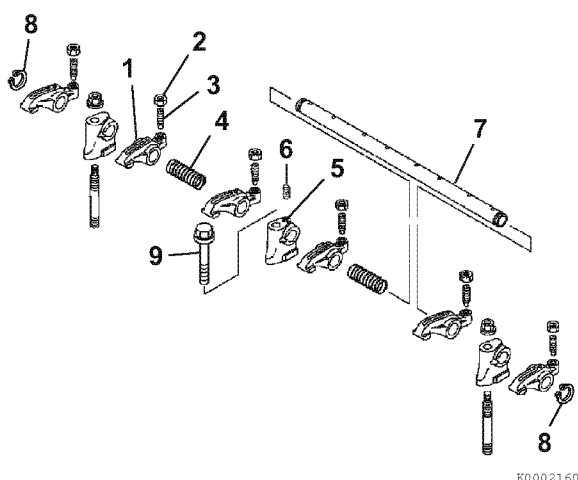

Figure 6-32
1. Lubricate the rocker arm shaft. Slide the rocker arm supports (5, **Figure 6-32**), springs (4, **Figure 6-32**) and rocker arms (1, **Figure 6-32**) onto the shaft.
2. Align the hole in the rocker arm shaft (7, **Figure 6-32**) and the hole in the rocker arm support (5, **Figure 6-32**). Reinstall the alignment set screw (6, **Figure 6-32**).
4. If removed, reinstall the valve adjusting screws (3, **Figure 6-32**) and lock nuts (2, **Figure 6-32**).